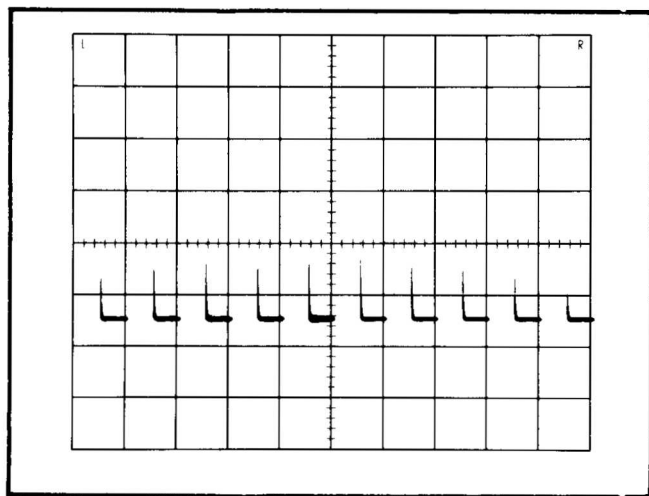

Fig. 6-21. Typical CRT display of intensity modulation.
- e. Check—For intensity modulation of the waveform (Fig. 6-21).